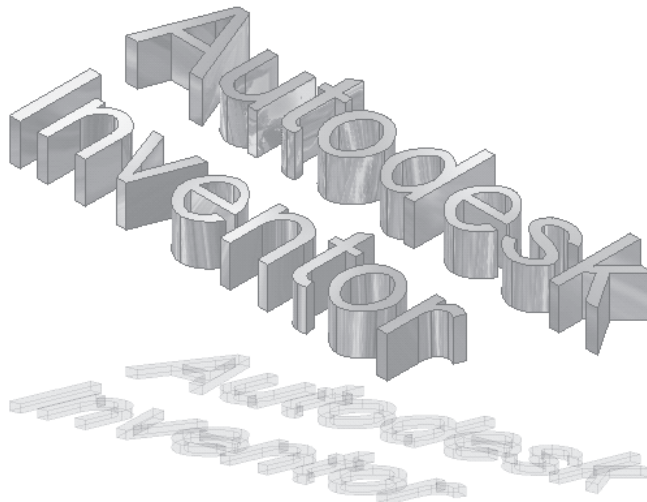

Figure 3-69 Text after changing the material and casting the shadow
3. Choose the **X-Ray Ground Shadow** button to cast this type of shadow below the extruded text. The final extruded text after casting the X-ray shadow is shown in Figure 3-69.